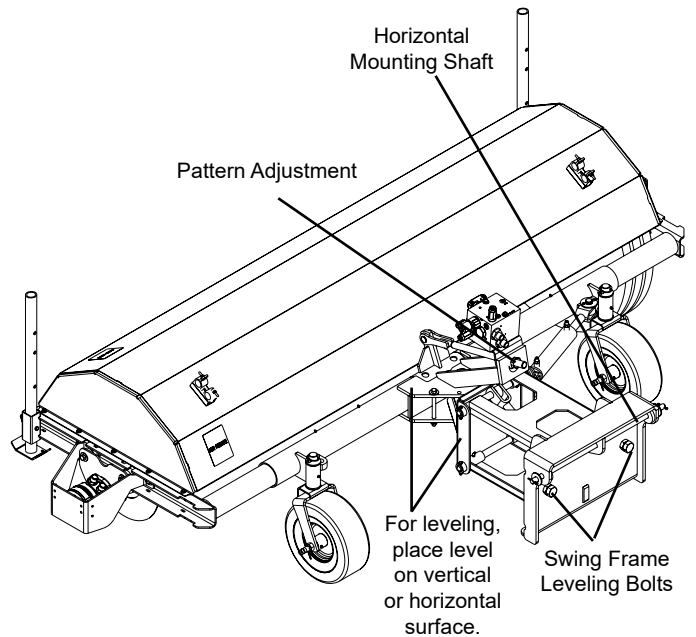

Figure 2
4. Adjust the swing frame so that it is level by adjusting the bolts in or out on the back of the swing frame. (Refer to Figure 2). Adjust both bolts evenly to maintain an even load on the mounting frame and the arms. Check to see that the frame is level by placing a small torpedo level vertically on the swing frame or horizontally on the pivot frame.